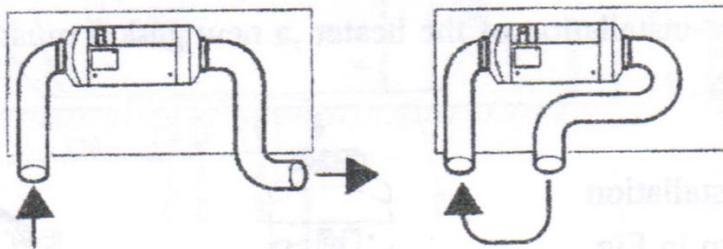

Fig. 12
- For heater using internal recirculation, measures shall be taken to avoid re-entering of the supplied hot air into the air inlet port (as shown in Fig. 12).